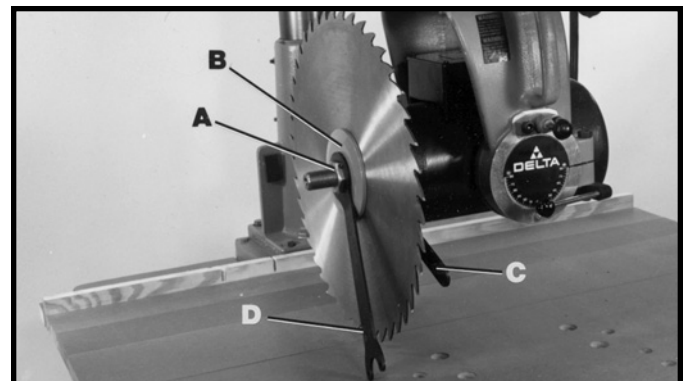

Fig. 23
2. Install blade on the saw arbor with teeth of blade pointing downward when viewed from front of saw, as shown in Fig. 23. Place the recessed end of blade flange (B) Fig. 23, against the blade, and thread the arbor nut (A) onto the arbor.
3. **IMPORTANT: To prevent arbor nut from spinning when blade stops, place the 1-1/16" wrench (C) Fig. 23 on flats of arbor and firmly tighten arbor nut (A) with the 1-5/8" box end spanner wrench (D) (left handed thread). Firmly tighten set screw (E).**